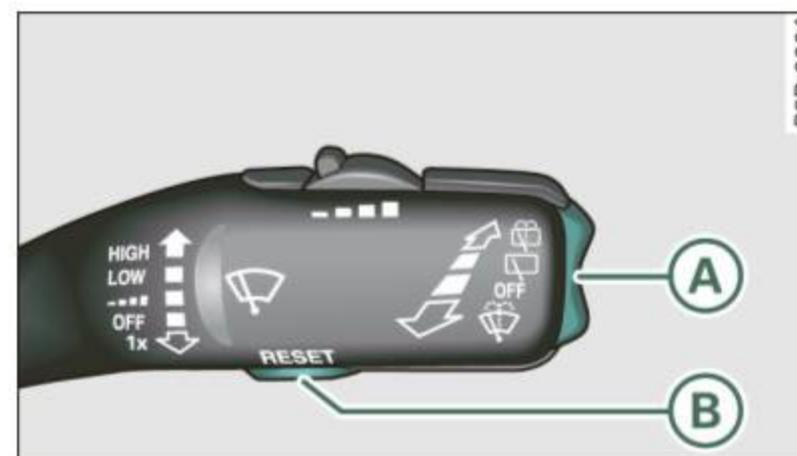

Fig. 19 Windshield wiper lever: controls for the trip computer
You can switch between the trip computer 1 and 2 by pressing the Reset button **B** ⇒ fig. 19.
- Push the function selector switch up or down **A** ⇒ fig. 19. This will cause the five distinct trip computer functions to be displayed one after another.